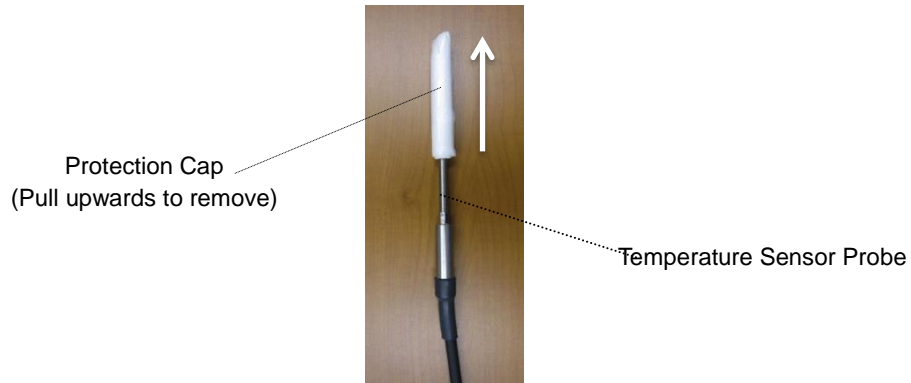

Figure 4-3. Remove Protection Cap
- 1) Remove the protecting cap which is attached to the probe by pulling the cap in upwards direction as shown below on Figure 4-3.